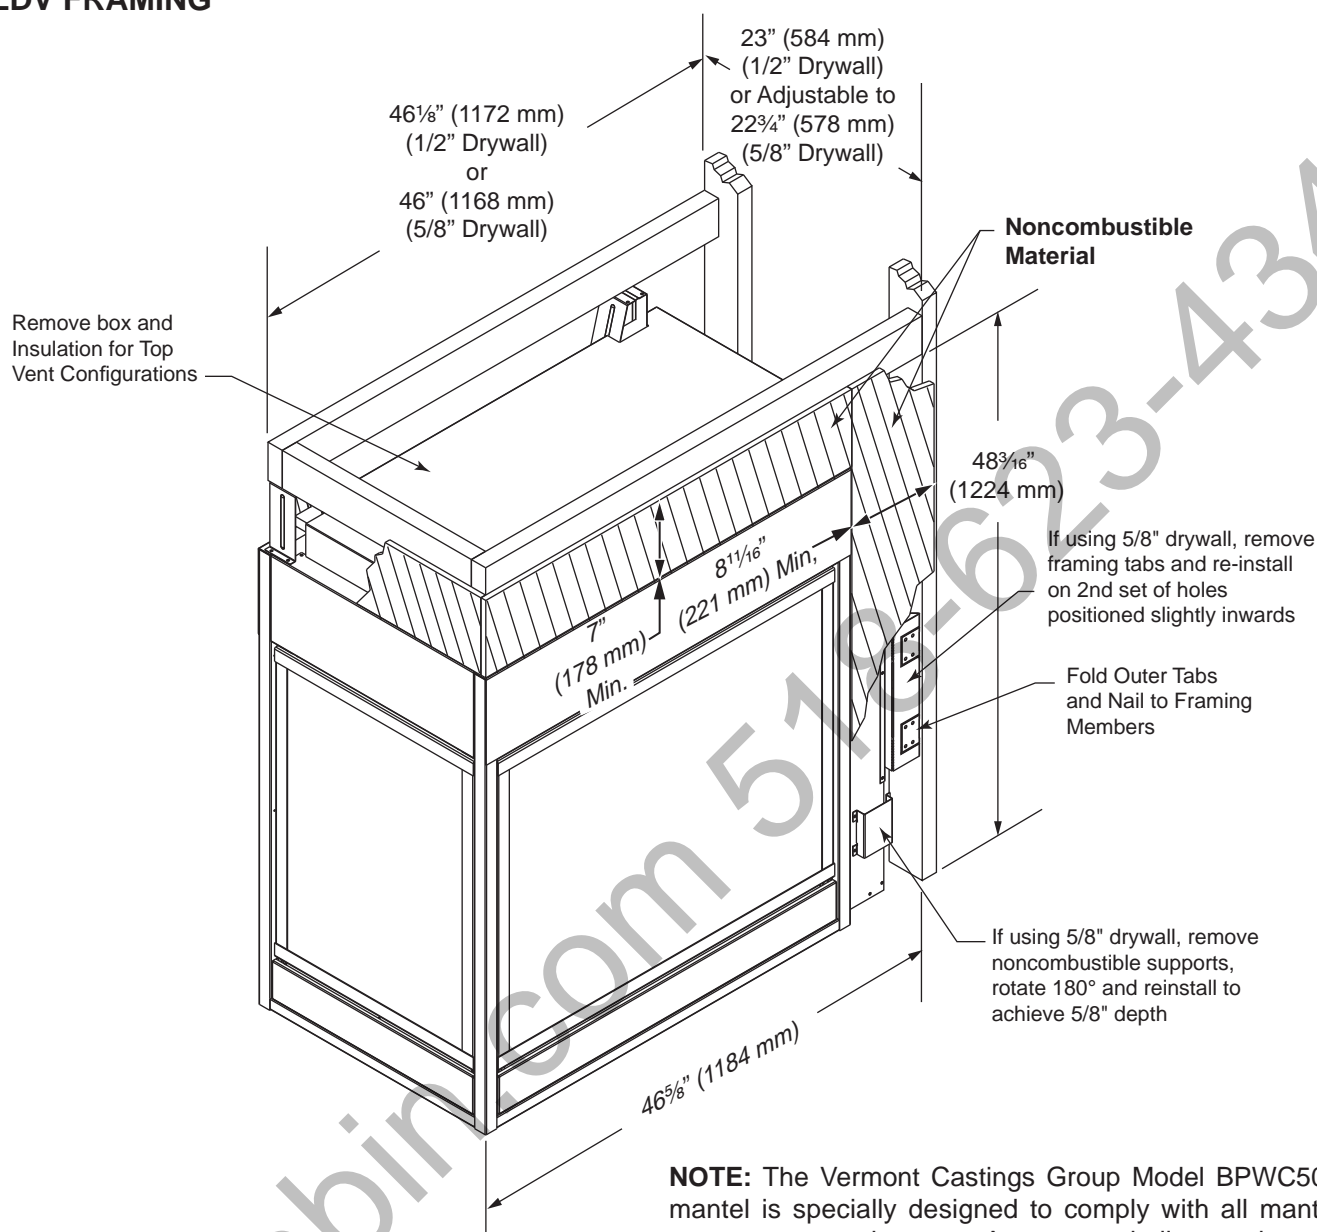

Figure 7 -
The fireplace must be secured to the floor and/or to framing studs as shown in *Figure 7*. Use four (4) wood screws or masonry/ concrete screws to secure fireplace to the floor. Use four (4) screws to attach fireplace to framing. The side brackets or nailing flanges are designed to accommodate two wall boards thicknesses, 1/2" or 5/8".